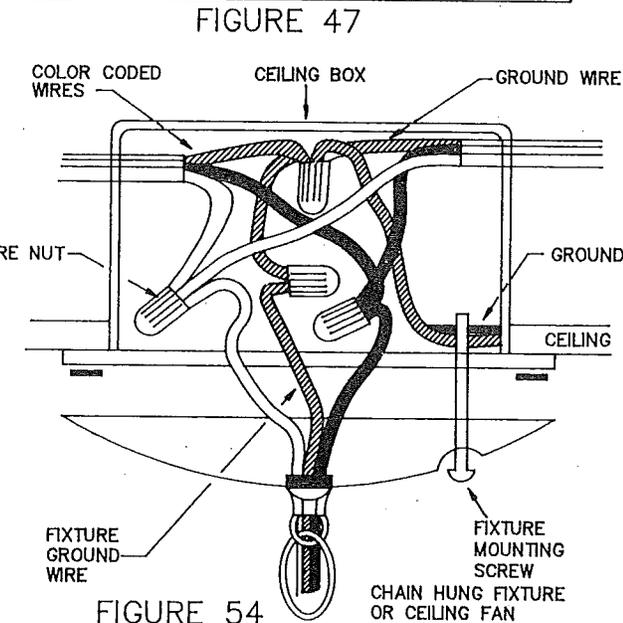

FIGURE 47
1. If your home is equipped with a built-in fireplace, it will be necessary to complete the installation of the round top assembly, rain cap, spark arrestor, and chimney pipe. See Figure 47.